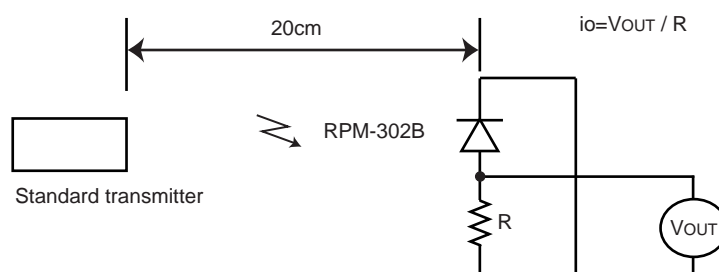

Fig.2 Measurement of standard transmitter proofreading
When standard transmitter output the signal at Fig.1 standard photodiode output become $i_o=5\mu\text{A}$ under the measurement condition Fig.2.
- (1) All characteristics of the receiver in this specification are specified by supplying burst wave form (Fig.1) with ROHM standard transmitter (Fig.2).